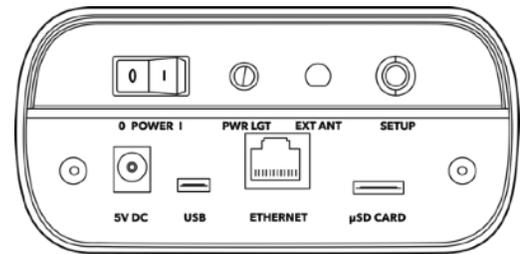

Fig 29
- b. Plug Receptacle with Available Power: Use a power cord with a 5V AC connector with a 5.5mm barrel jack. Plug power cord into a wall receptacle, battery, or battery powered work lights that have an available plug. Plug the barrel jack into the bottom of the Energy Data Gateway (**Fig 29**).
- Click the "Setup" button once to repeat the CT lighting sequence for Chain Check as needed. **Fig 29.**